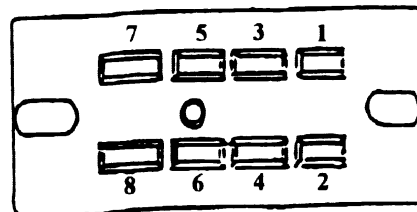

Figure 3
2. Remove the terminal from location 3 of the changer socket (See figure 3 above) using the removal instructions on page 3.
4. Remove the terminal from location 7 of the changer socket (See figure 3 above) using the removal instructions on page 3.
6. Insert wire #3 of the conversion harness in changer socket location 3. (See figure 3, page B1.)
7. Insert wire #4 of the conversion harness in changer socket location 4. (See figure 3, page B1.)
8. Insert wire #7 of the conversion harness in changer socket location 7. (See figure 3, page B1.)
9. Insert wire #8 of the conversion harness in changer socket location 8. (See figure 3, page B1.)